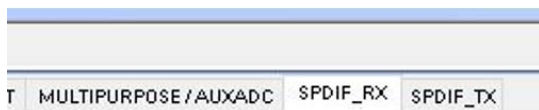

Figure 35. Selecting the **SPDIF_RX** Tab
- Next, click the **SPDIF_RX** tab (see Figure 35).